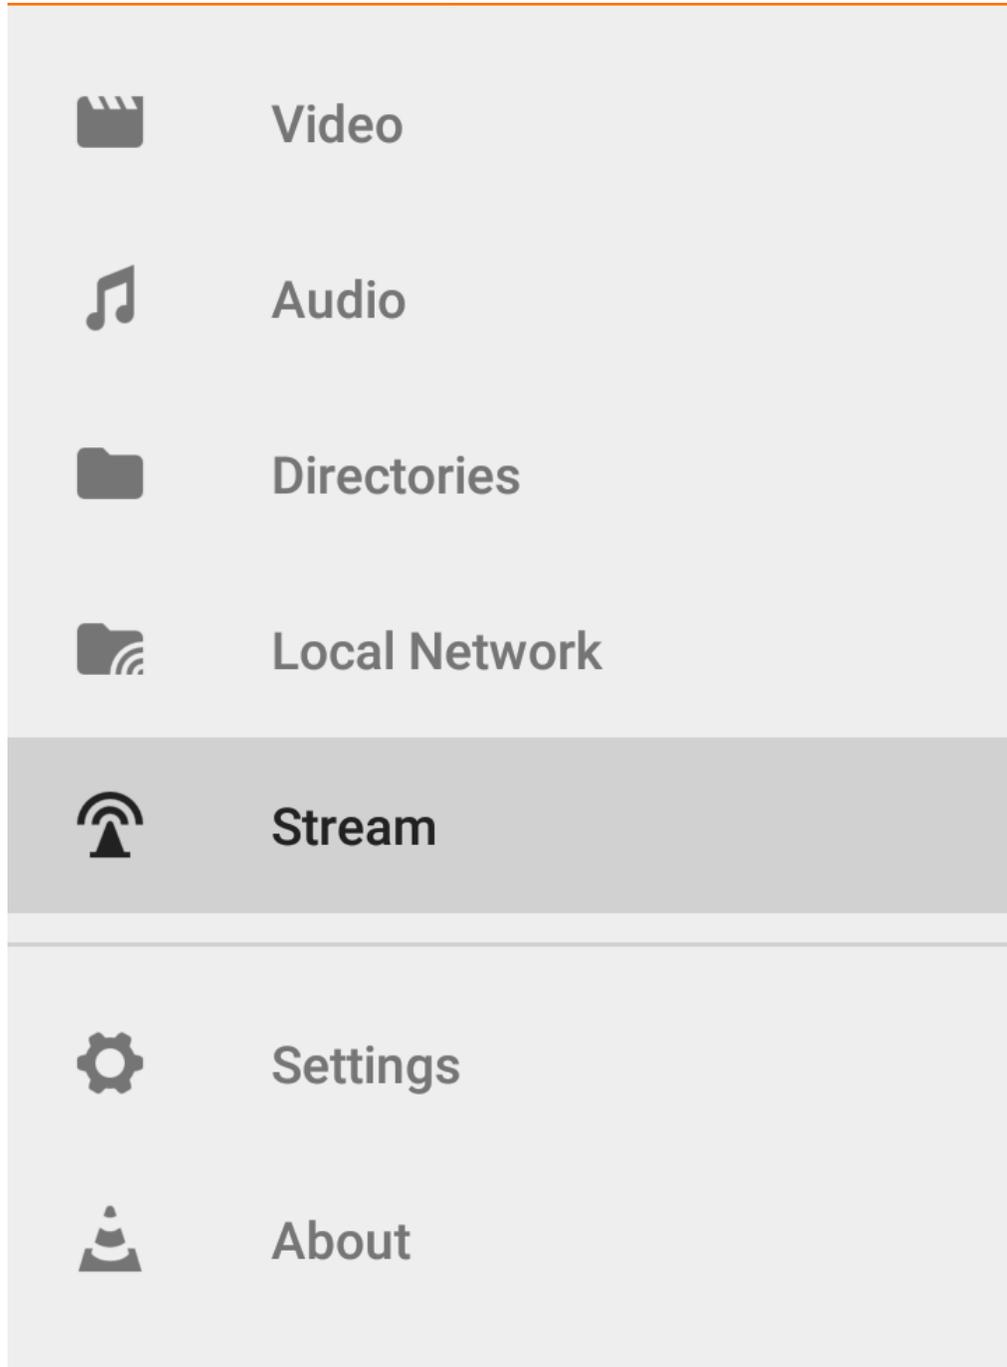

Figure 3-11. Choose Stream
2. Run VLC, and Choose Stream, as shown in Figure 3-11.